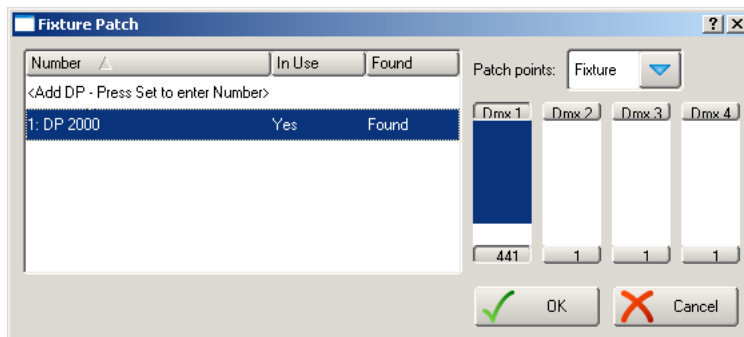

Figure 7.1. The Fixture Patch Window
3. In the Fixture Patch window, check that DMX Processor 1 is highlighted, and its first Universe is selected; *Figure 7.1, "The Fixture Patch Window"*.